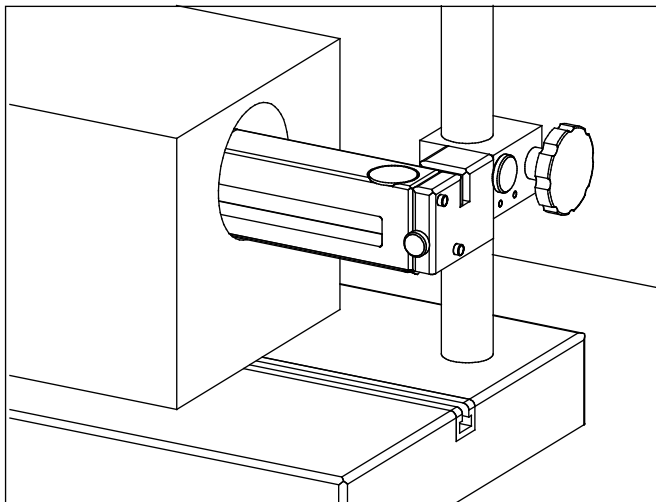

Fig. 7
- Cylindrical bores with diameters larger than 68 mm (2.677 in) allow the MarSurf GD 25 / GD 25 plus to be inserted completely (see Fig. 7). In this case the support feet have to be replaced by the screws.